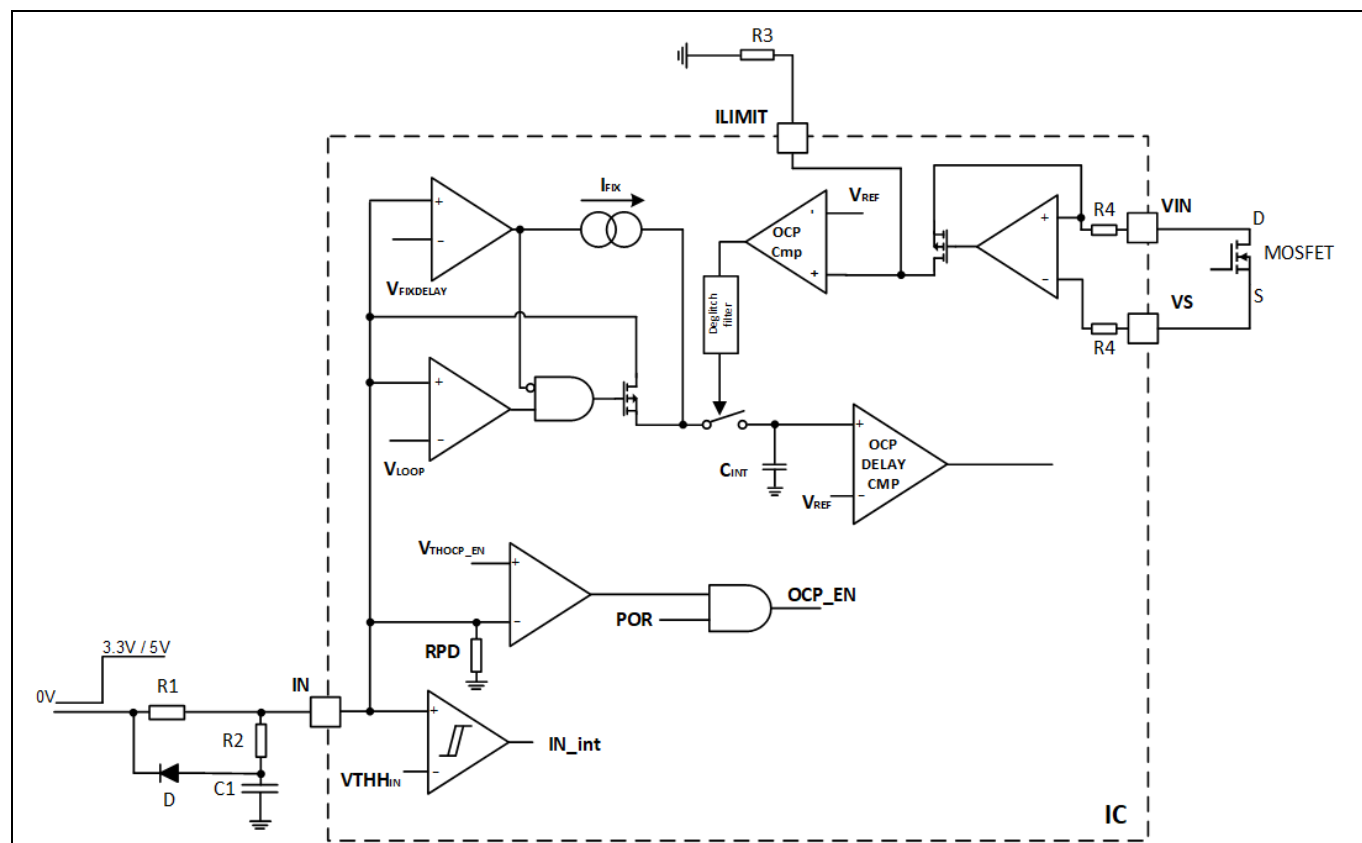

Figure 3 **OCP setup**
R_{PD} = IN pin pull-down resistor as shown in Figure 3
Where V_{REF} is 1.2 V and C_{INT} is a 1 nF internal capacitance shown in Figure 3. Blanking times 1 and 2 can be calculated as 1.72 and 0.19 ms, respectively, to provide a total blanking time of 1.91 ms in this example.
- External R_3 as shown in Figure 3
- Number of the MOSFETs in parallel (N)
OCP is not triggered if the duration of OCP is shorter than the delay time. Therefore, any current spike that lasts less than the delay time does not trigger the OCP function. The delay time can be set with the external component R1 as shown in Figure 3 and its driver voltage with the following equation: